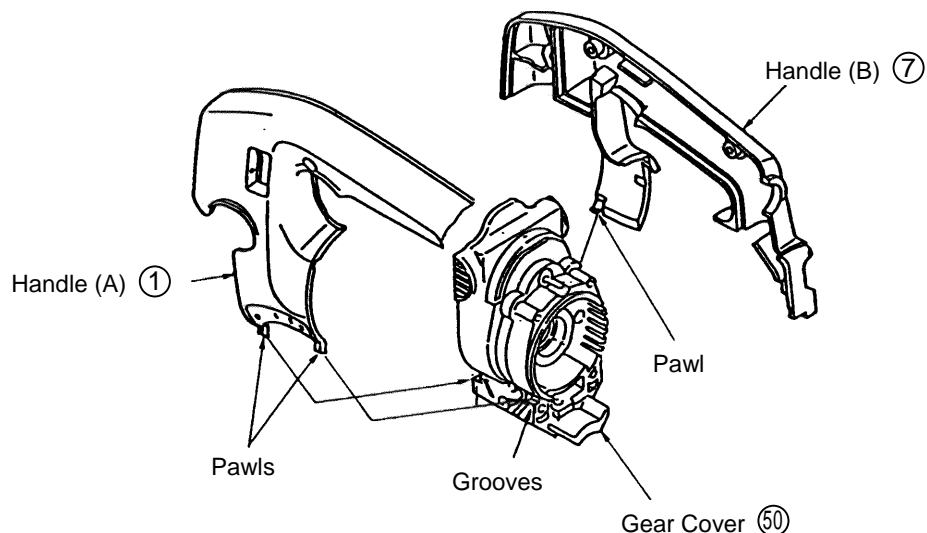

Fig. 19
- (8) Install Handle (A) ① and Handle (B) ⑦ so that their pawls (two on Handle (A), one on Handle (B)) are properly inserted into the grooves provided on the Gear Cover ⑤①. (See Fig. 19)